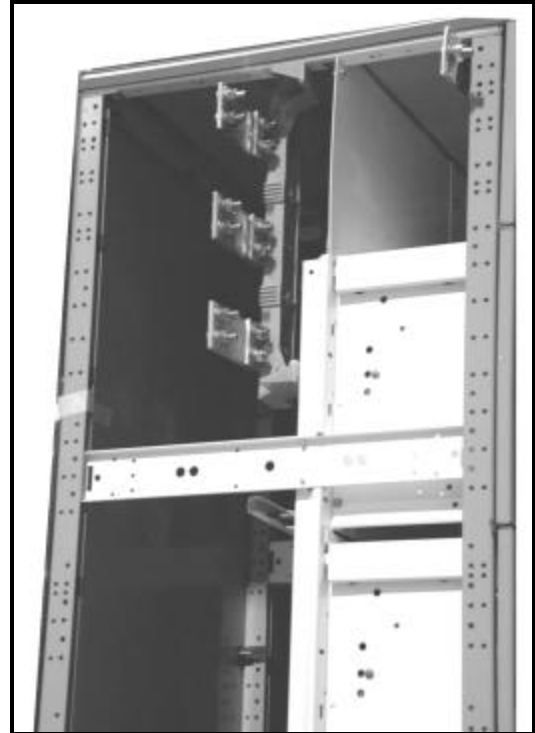

Figure 4 Splice Plates Attached to RH Section
2. The horizontal bus splice plates and connection hardware will be shipped with the MCC attached to one end of shipping section. Refer to Figure 4. This method provides the most convenient